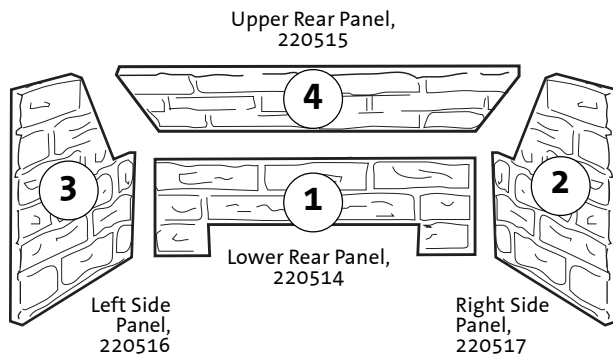

Figure 17. Panel installation order.
Install the optional Brick Panel Kit 155311 before placing the Logset. Place the panels in position in the order as numbered in Fig. 17. No fasteners or tools are required.
3. **Install the Lower Rear Panel.** Orient the panel so that the cutout is at the bottom. Engage the bottom edge between the rear wall and the firebox base. See Fig. 17.